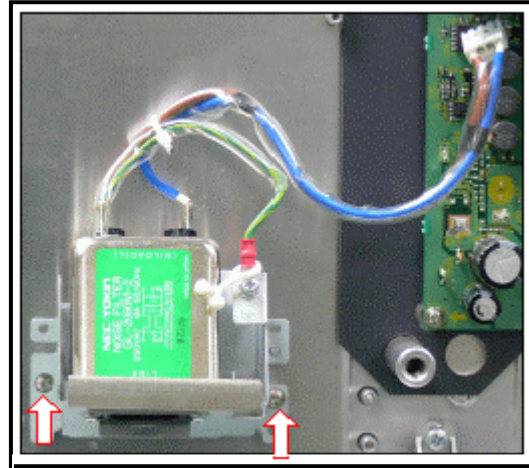

Figure 20. AC Inlet
1. Remove the two screws that attach the AC inlet to the panel as indicated in figure 20.